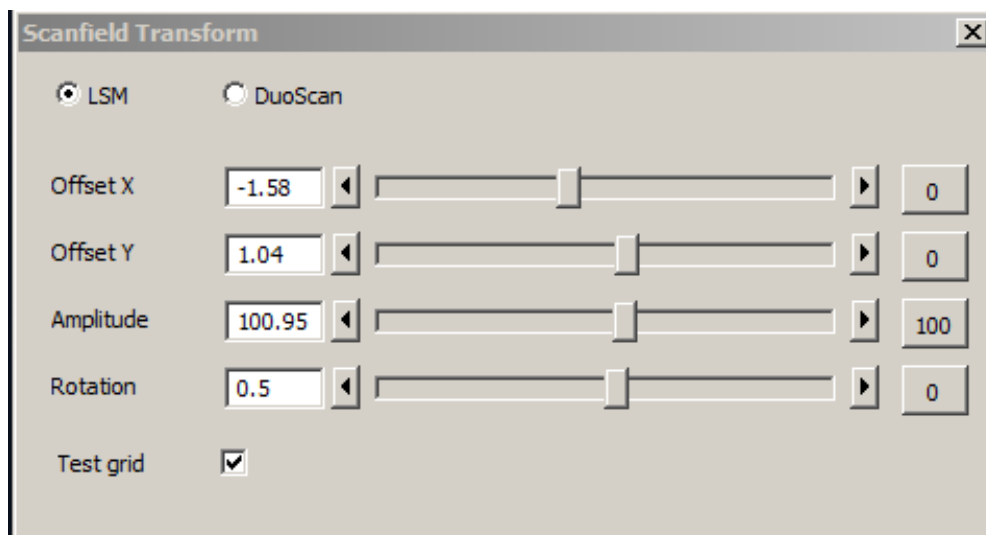

Fig. 21 Scanfield Transform macro interface
- Start the Image Match (Scanfield Transformation) Macro (Fig. 21).
- For LSM 7 MP with two scanners, focus onto the grid using the imaging scanner (choose "LSM" in the Macro window) and position the center of the grid sample into the center of the image. To do this project the virtual grid into the image by checking the box next to **Test grid** in the macro window (Fig. 21) and try to overlay the grid sample with the Test grid in the image moving the sample stage accordingly. Fine adjust the image of the grid sample to the Test grid using the buttons for Offset, Amplitude and Rotation.